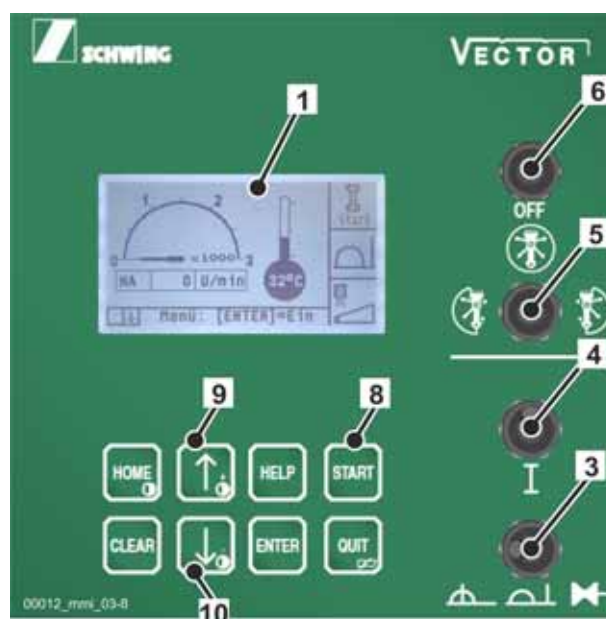

Fig. 430
- ▶ Using the START button (8) (Fig. 430), confirm that all outriggers have been extended correctly.
- Press the "START" button (8) (**Fig. 430**) to confirm that all outriggers have been extended properly.
- Release the work area by pressing the "START" button (8) (**Fig. 430**).